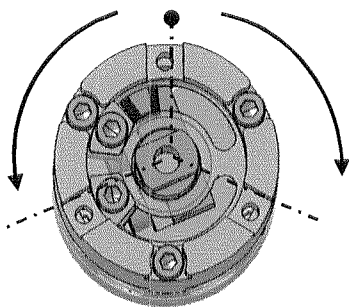

Figure B1. Example of maximum rotation angle adjustment in 270 degrees specification
- ② As shown in Figure A1, by moving stopper block (C) in direction A or stopper block (D) in direction B, the rotation angle can be adjusted continuously from 0 to a maximum angle of 240 degrees (0 to 230 degrees for CRB2BWU10) when the base rotary has 270 degrees specification. (Refer to Figure B1.)
- ③ Rotation range of the single flat of output shaft according to the operation (2) is shown in A2.
⑤ As shown in Figure E1, when the stopper block (C) moves in the direction of A, the rotation angle can be adjusted continuously from 0 to a maximum angle of 90 degrees when the base rotary has 100 degrees specification. (Refer to Figure B1.)